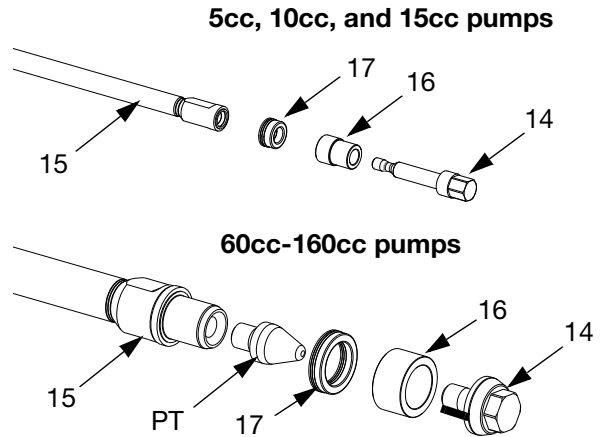

FIG. 23
5. For 5cc, 10cc, 15cc, and 60cc-160cc pumps: Apply one stripe of removable strength thread locker to piston retainer (14) threads and assemble. See FIG. 23.